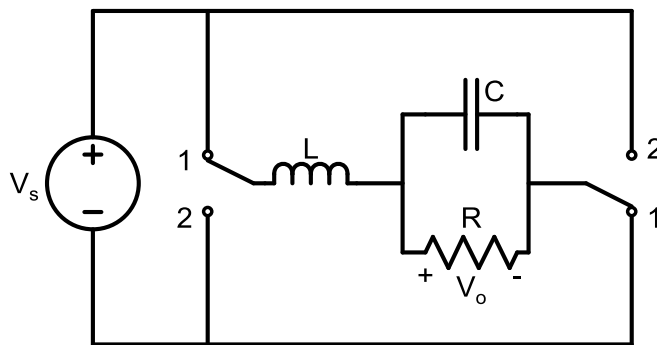

Fig.Q1A
- 1A. For the circuit shown in Fig.Q1A, determine the voltage conversion ratio V_o/V_s when both switches are operated synchronously i.e. each is in position 1 for $0 \leq t \leq DT_s$, and in position 2 for $DT_s \leq t \leq T_s$. 03